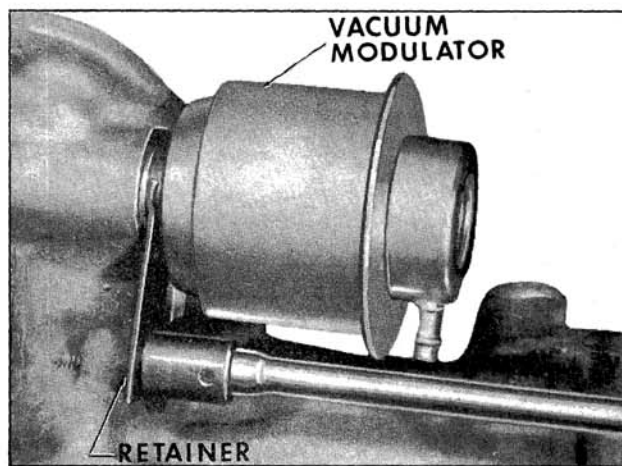

Fig. 6-372 Removing Vacuum Modulator Retainer
1. Remove vacuum modulator retainer bolt and retainer using a 1/2" socket. Remove vacuum modulator and valve assembly. (Figs. 6-372, 6-373 and 6-374)